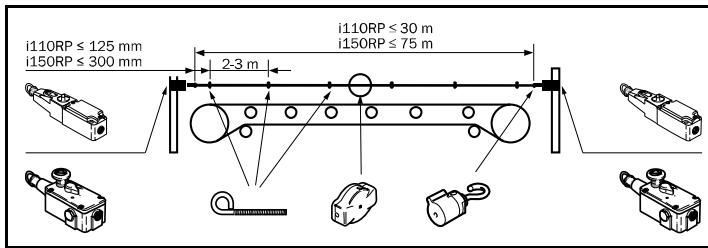

Fig. 2: Example of an installed rope with all components.
**2.2 Actuation rope system layout (Fig. 2)**